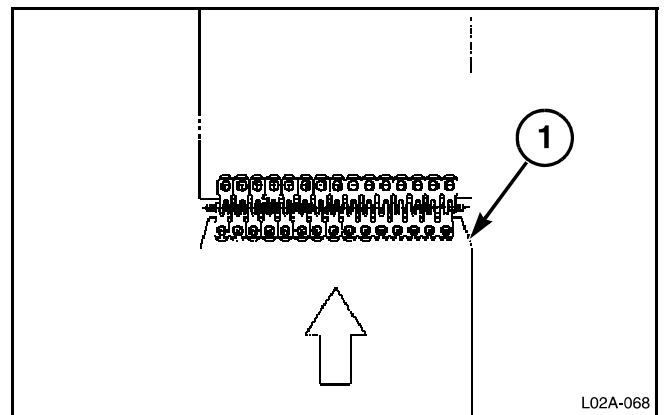

FIG. 6
FIG. 6: The corners (1) of the PULLED end must be cut at an angle 6 x 20 mm (1/4 x 3/4 in). Tapered corners will permit free movement of the forming belt on the guides and will keep the end hooks from pulling out.